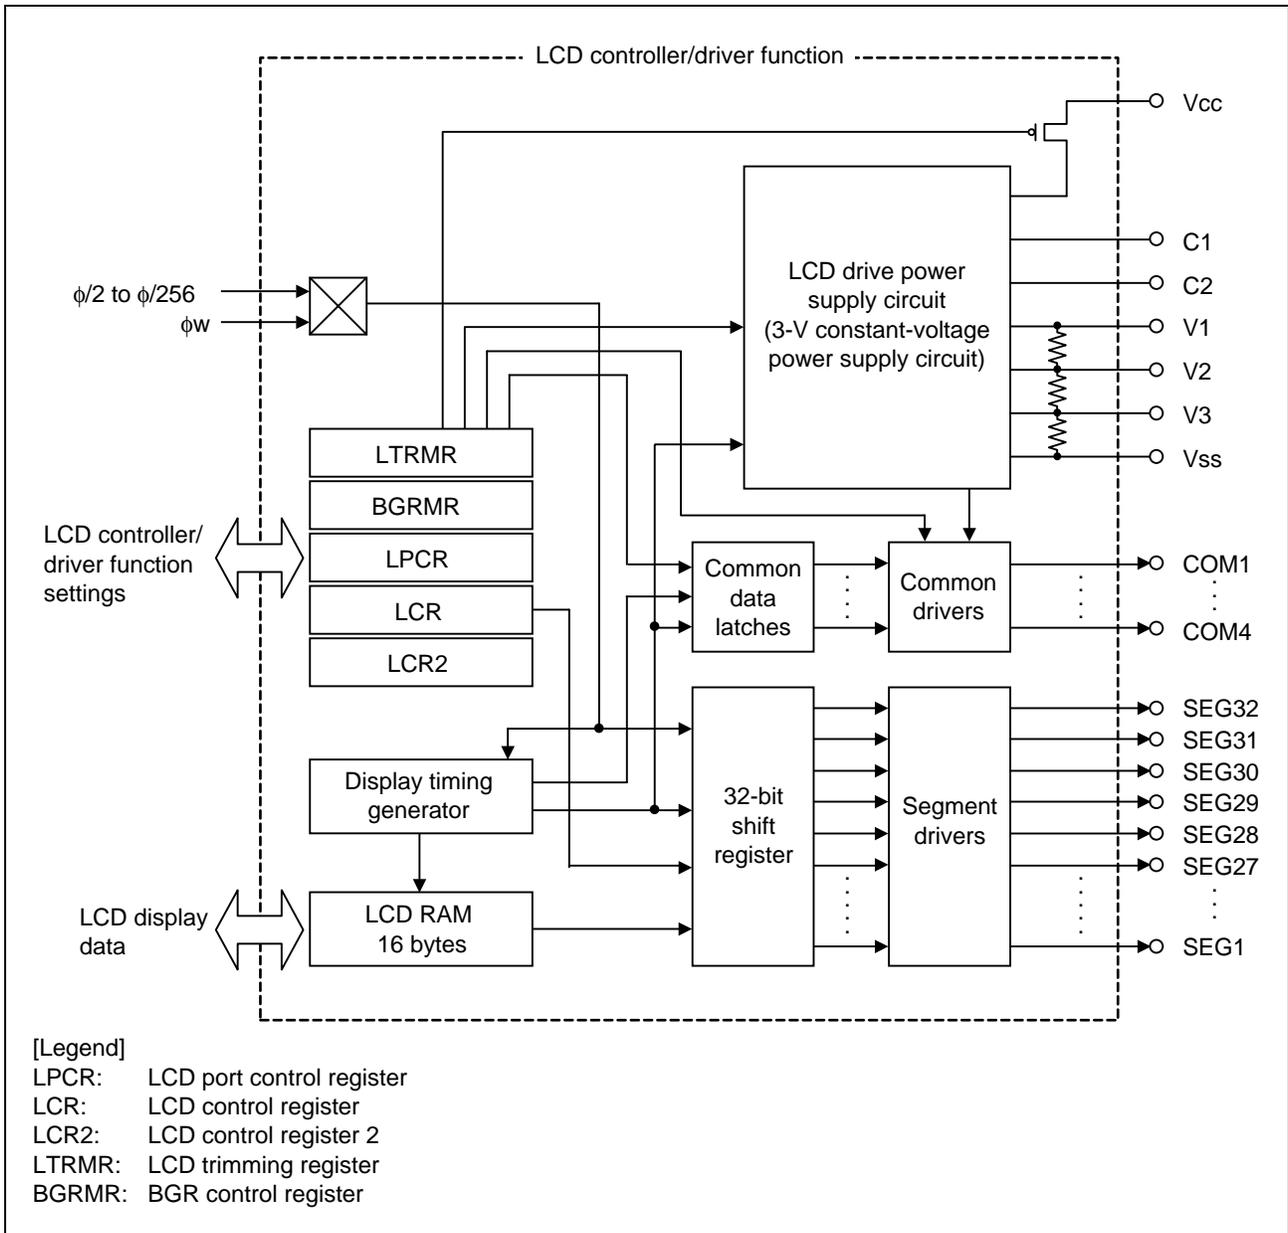

Figure 2 Block Diagram of LCD Controller/Driver
(1) The functions of the LCD controller/driver are described below, and a block diagram of the LCD controller/driver is shown in figure 2.